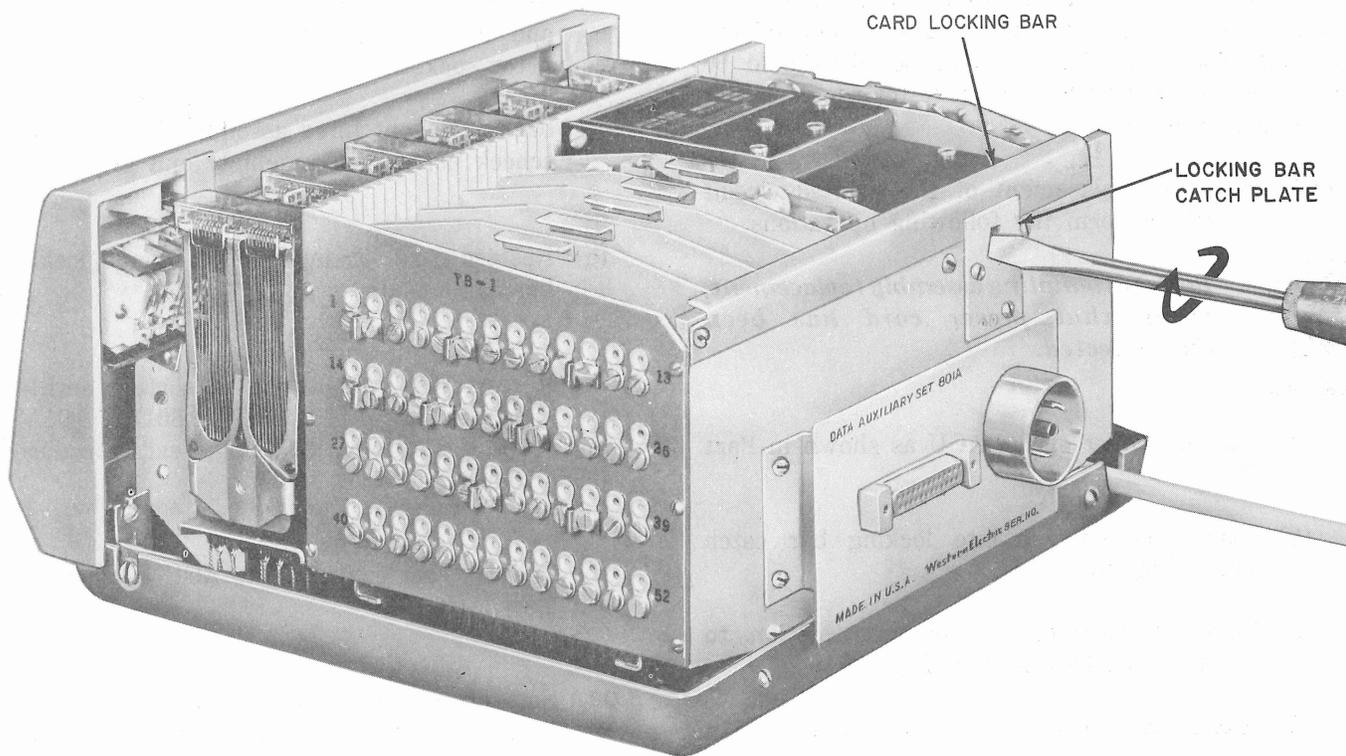

Fig. 5—Data Auxiliary Set 801A-Type, Cover Removed for Printed Circuit Board Replacement
- (b) Insert screwdriver into locking bar catch plate (Fig. 5).
- (c) Turn screwdriver in clockwise motion to release card locking bar (Fig. 5).